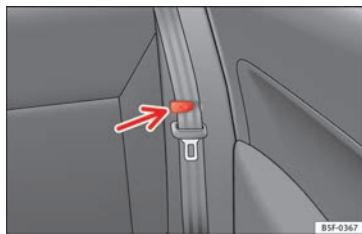

Fig. 149 Clip to support the seat belt.
- Place the side seat belts in the trim clip » Fig. 149.